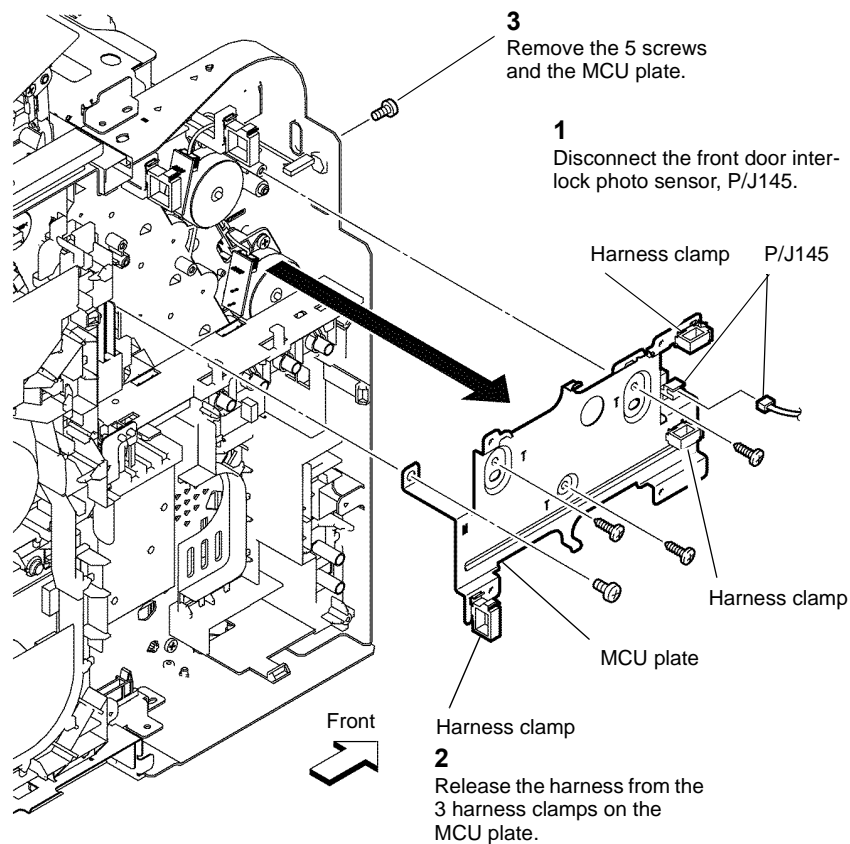

Figure 1 MCU plate
3. Remove the MCU Plate, Figure 1.